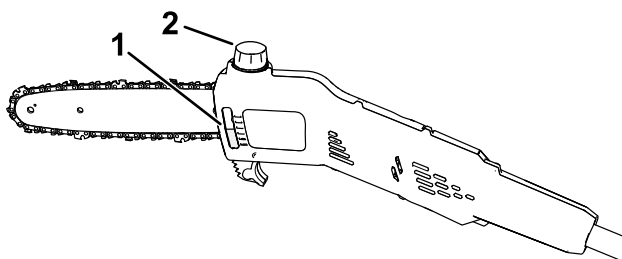

Figure 17
2. Check the oil level in the window. If the oil does not fill the window, add bar and chain oil as needed (Figure 17).
4. Clean the area around the oil cap (Figure 17).
5. Remove the cap, and pour bar and chain oil into the pole saw until the oil fills the tank (Figure 17).